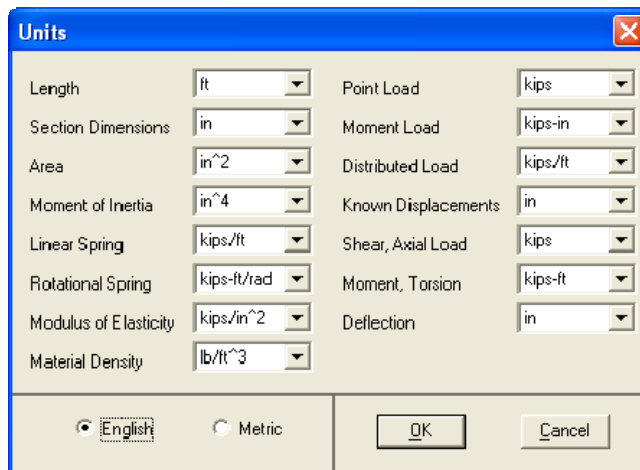

Figure 4-4 Define Units
- Open the drop-down list boxes needed and select the appropriate units (see the following Figure 4-4 for the units used in this example).